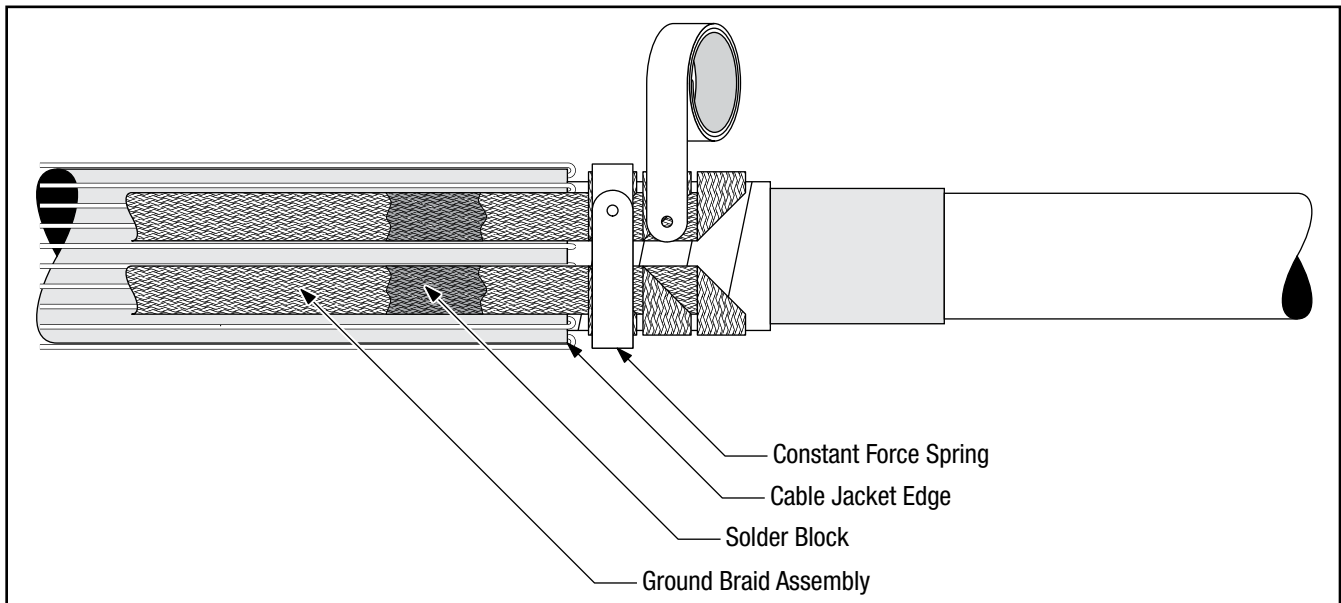

Figure 13
- 4.2 Select the 3 constant force springs from the kit. Starting at the loop of the ground braid assembly nearest the cable jacket edge, install the 3 constant force springs, one around each ground braid loop. Cinch (tighten) the springs after wrapping the final turn. Mark the solder block location on the cable jacket. (*Figure 13*)